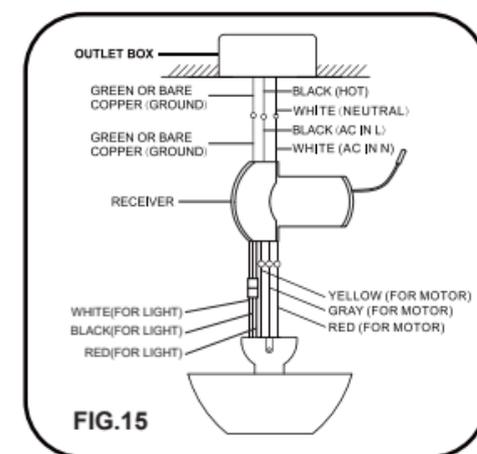

FIG.15
Step 4. Motor to receiver wires electrical to connections: connect the RED wire from the receiver to the RED wire from the motor, the YELLOW wire to the YELLOW wire, and the GRAY wire to the GRAY wire. For the light, connect the 3P-3P for light. (Fig.15)